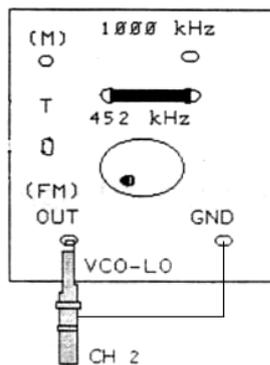

Figure 6-13.
1. Locate the VCO-LO circuit block. Insert the two-post connector in the 452 kHz terminals (Figure 6-13). Set the VCO-LO amplitude potentiometer fully CW.